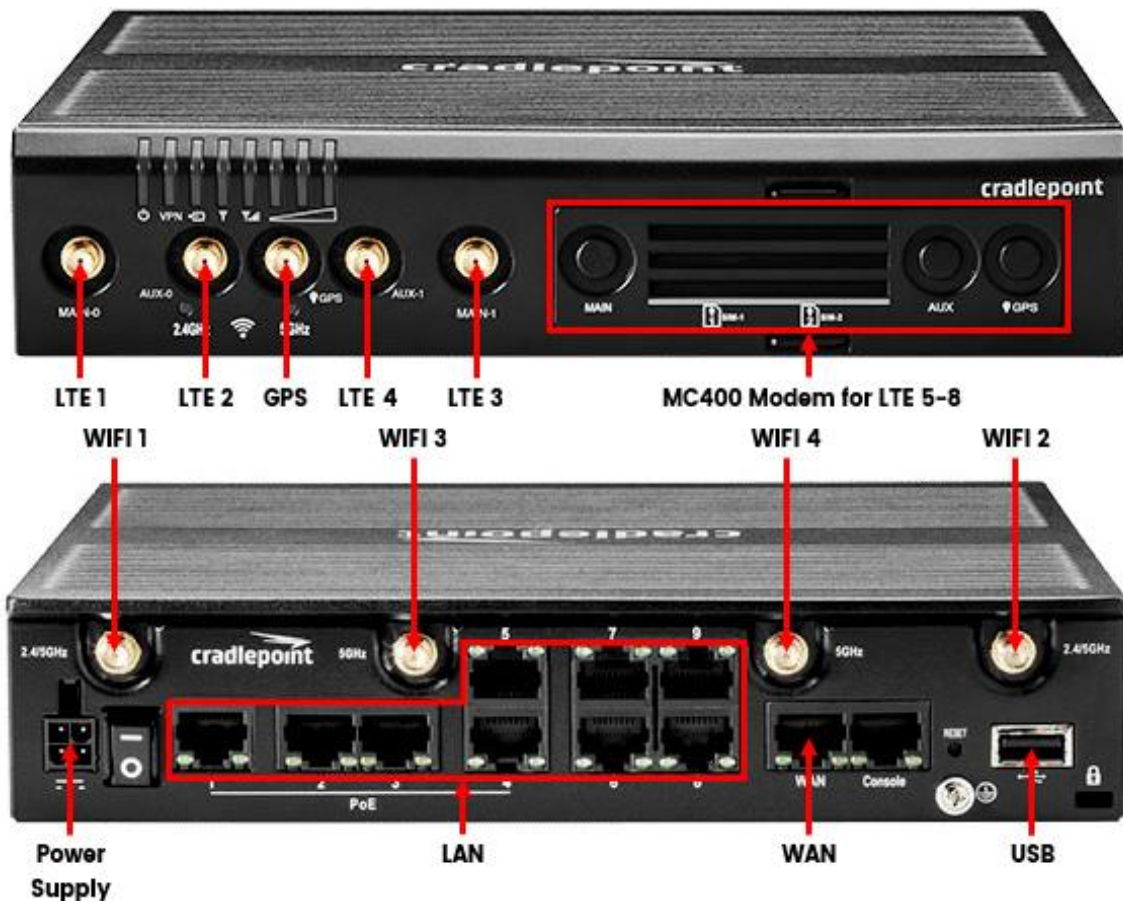

Figure 12: Cradlepoint AER2200 Connections
- A. **For AER2200, IBR1700, and R1900 without the managed accessory**, connect the router power supply to the power supply port on the router, shown in Figures 12, 13 & 14.
- A. Connect the provided ethernet cords to the LAN and WAN ports on the router, shown in Figures 12, 13 & 14.
- C. **For transferring data to external devices**, connect the other end of the USB-A cord into the USB-A port on the router, shown in Figures 12, 13 & 14.